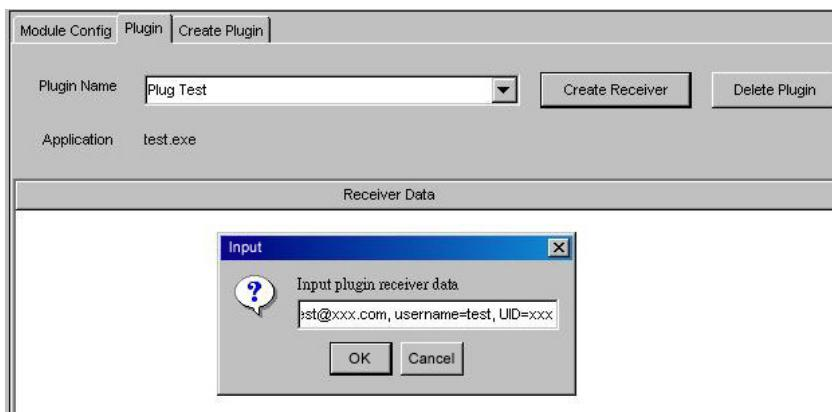

Figure 4-22: Create Plug-in Receiver Profile
Step 6. Enter the configuration string to be read when the application program starts. (See **Figure 4-22**) A configuration argument may look like this: